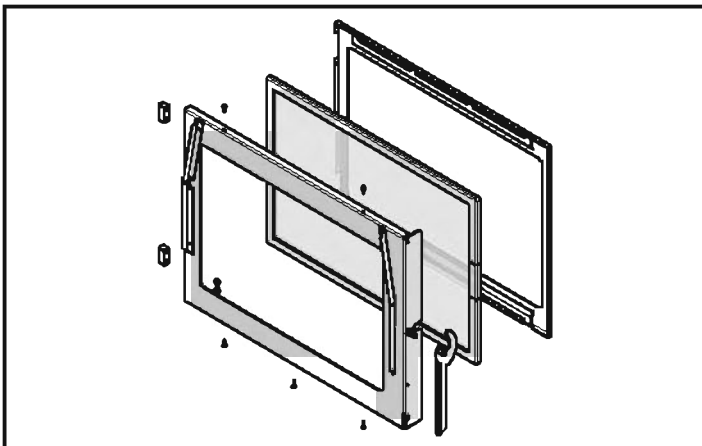

Figure 21.1
2. Using a Phillips head screw driver, remove 4 screws, 2 on the top and 2 on the bottom. Remove metal bracket and then remove the glass. **Figure 21.1**